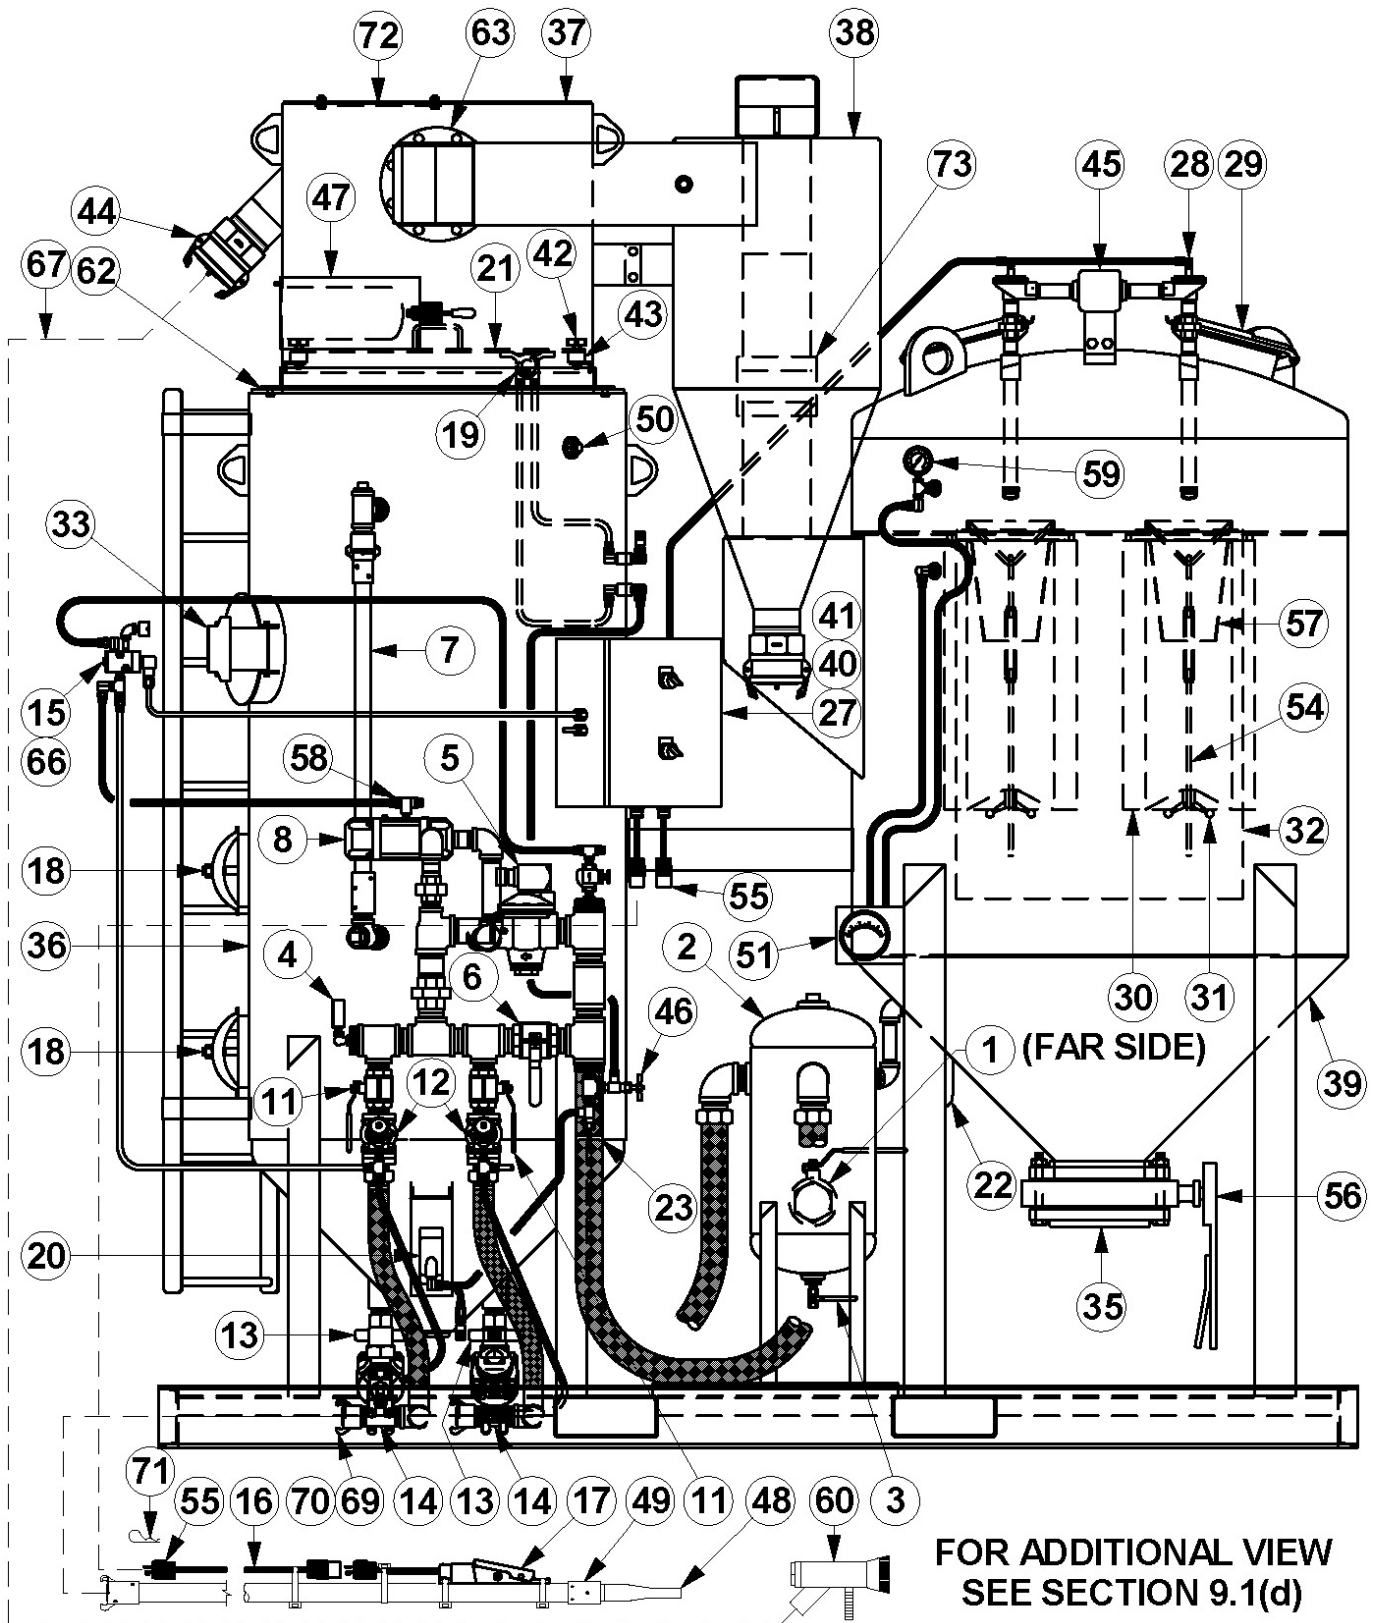

Figure 7.2 – Typical BRS2 Abrasive Blaster
7.2 Beginning the Blasting Operation (See Figure 7.2)
- 7.2.3. Open the abrasive shutoff valve(s) (#13). See Figure 7.2.
- 7.3.5. Connect the vacuum hose (#67) between the blast head and the reclaimer vacuum port (#44). Refer to Figure 7.2.
7.4 Ending the Blast Operation (See Figure 7.2)
- 7.4.4. Close the air inlet ball valve (#1). The ball valve is closed when the handle is fully turned to the position shown in Figure 7.2 (handle perpendicular to body). The handle tab will bottom against the ball valve body in the closed position.